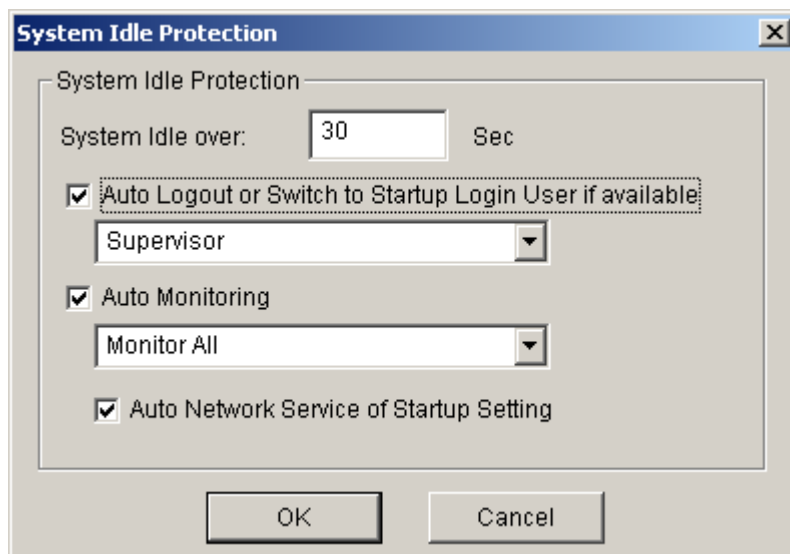

Figure 1-101
4. In the System Idle Protection dialog box (Figure 1-101), enable the **Auto Logout or Switch to Startup Login User if available** option, and then select **Supervisor** or **Supervisor, Poweruser** from the drop-down list.
1. In the System Idle Protection dialog box (Figure 1-101), enable the **Auto Monitoring** option, and select **Monitoring All**, **Schedule Monitoring** or **I/O Monitoring** from the drop-down list.